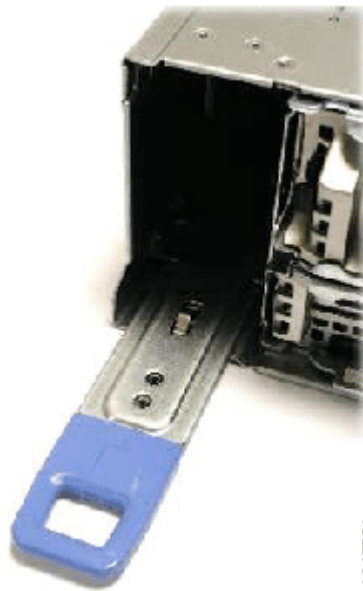

Figure 108. Sliding out the power interposer
2. Remove the power interposer by pulling on the blue handle that is located beneath the PSU slot. Figure 108 on page 146 shows an example.